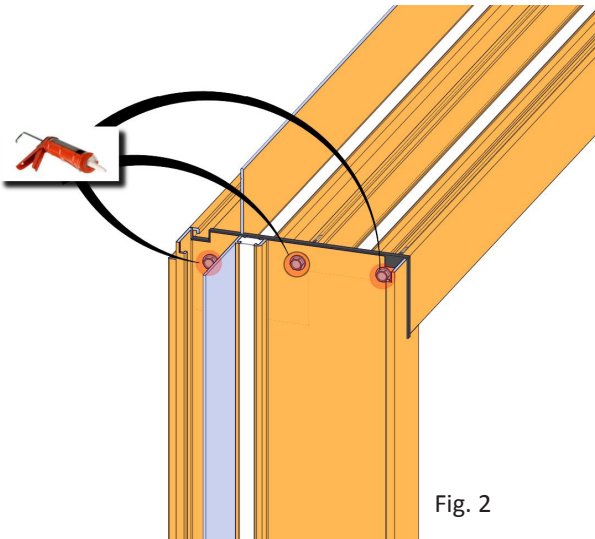

Fig. 2
2. Seal around screw heads and all outside corners with sealant. (Fig. 2)